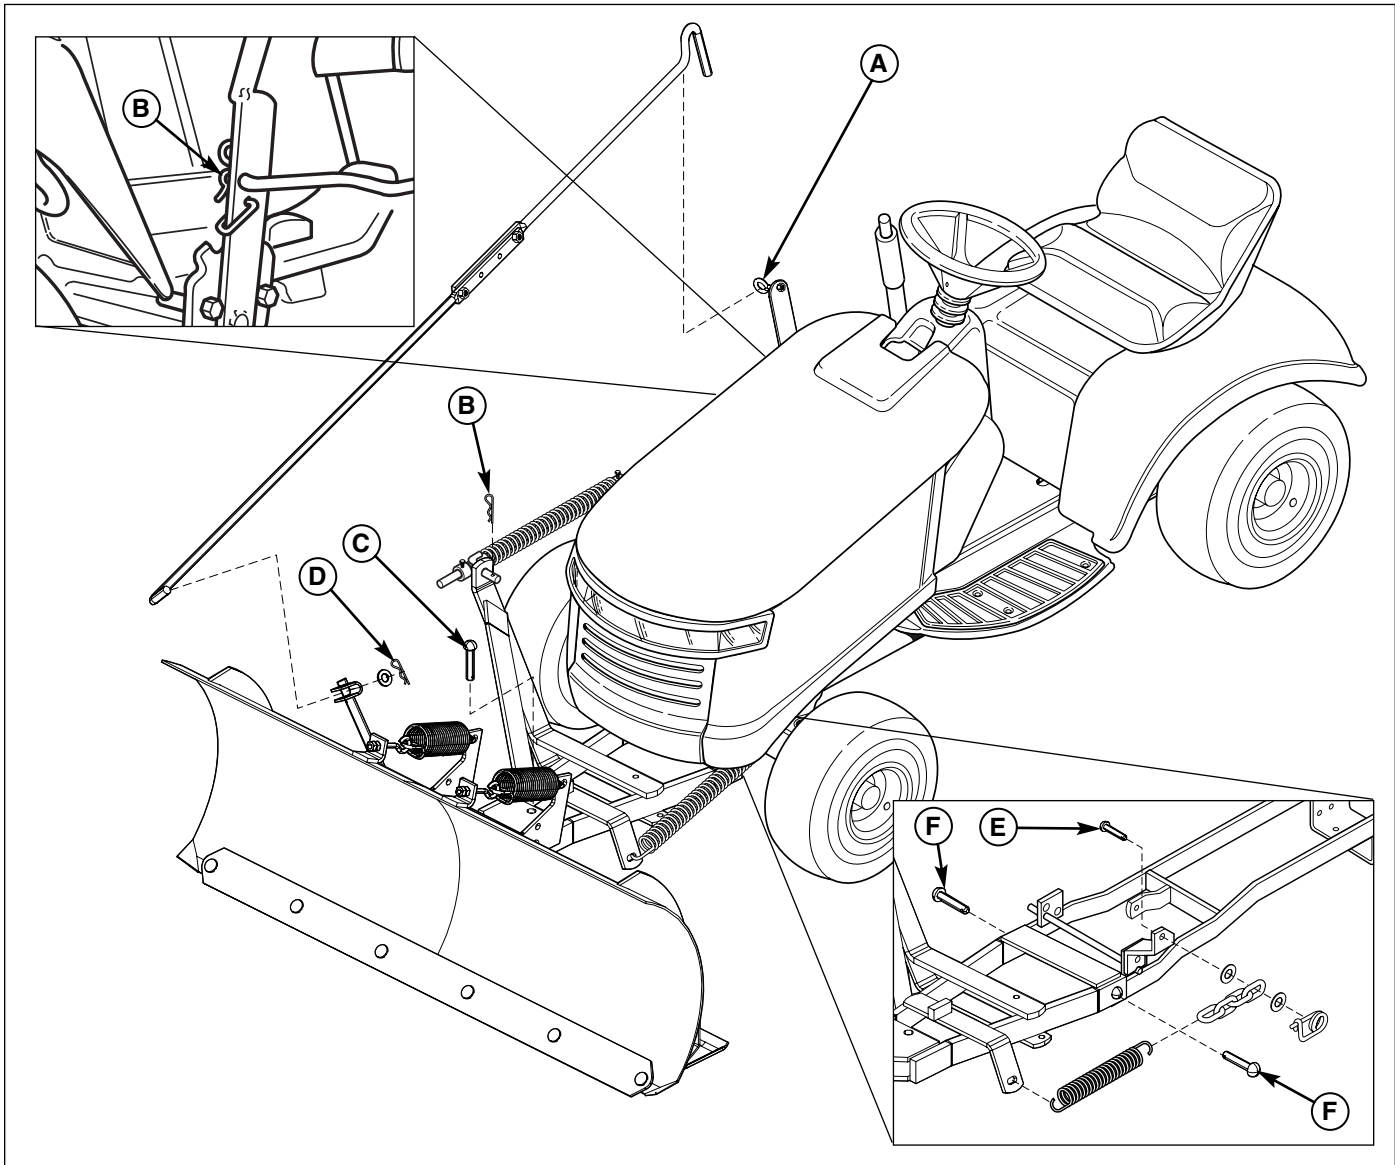

Figure 24. Dozer Removal
2. Remove the hair pin clip and washer (D, Figure 24) securing the angling control rod to the clevis. Disconnect the angling control rod.
3. Remove the angling control rod from the support arm (A).
4. Remove the pivot pin (C) connecting the blade and pushbar. Remove the blade.
5. Raise the push bar and remove pin (E) securing the chain to the hitch bracket.
6. Lower the lift and remove the pins (B) securing the lift rod to the push bar and lift rod.
7. Remove the pins (F) securing the push bar to the tractor hitch.